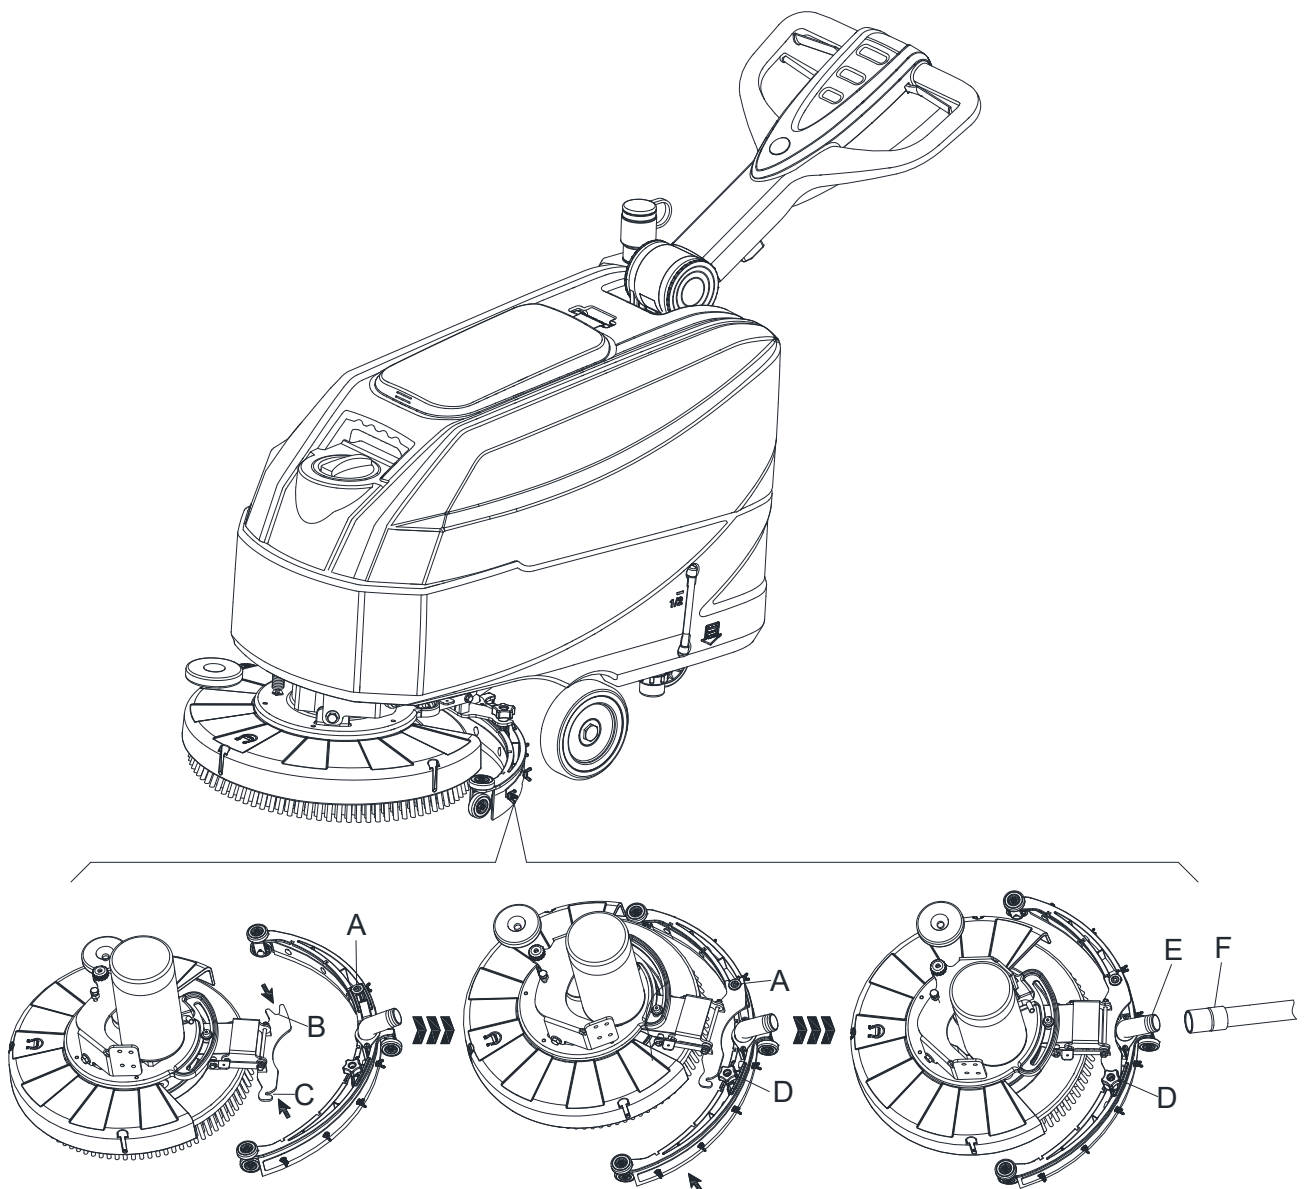

Figure 6
5. Fix stud A to the openg B, then fix another screw C to the open D, fasten squeegee knob and connect recovery water drain hose F to the connector E (Figure 6).